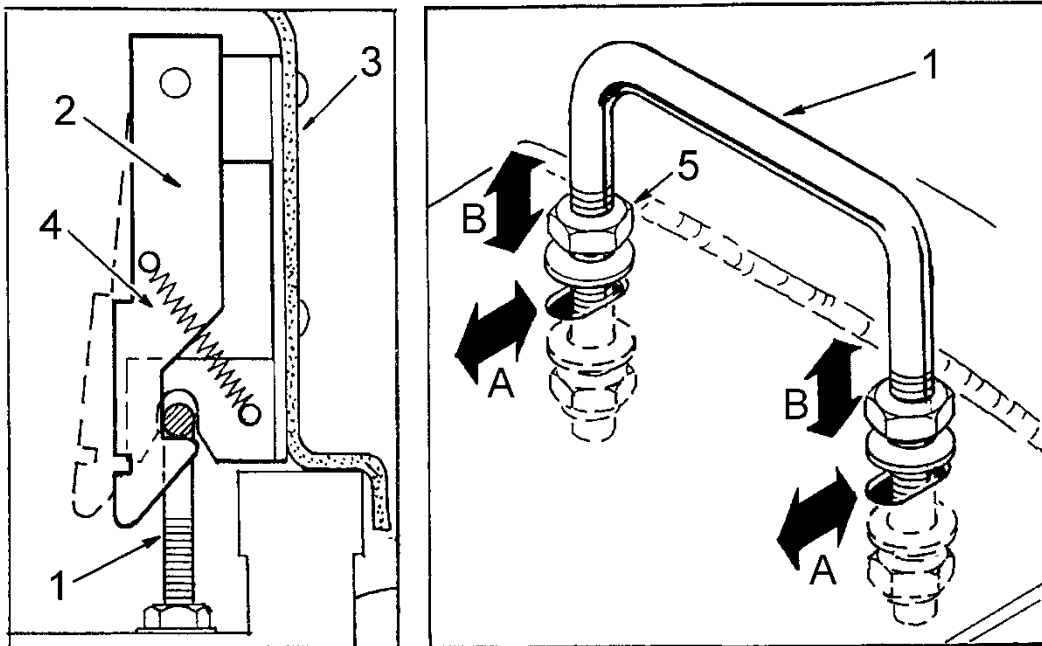

Fig 7.1 – Body Catch Adjustment
4. Slide the bar in the direction “A” in Fig 7.1 to place the bar in the centre of the body catch assembly.